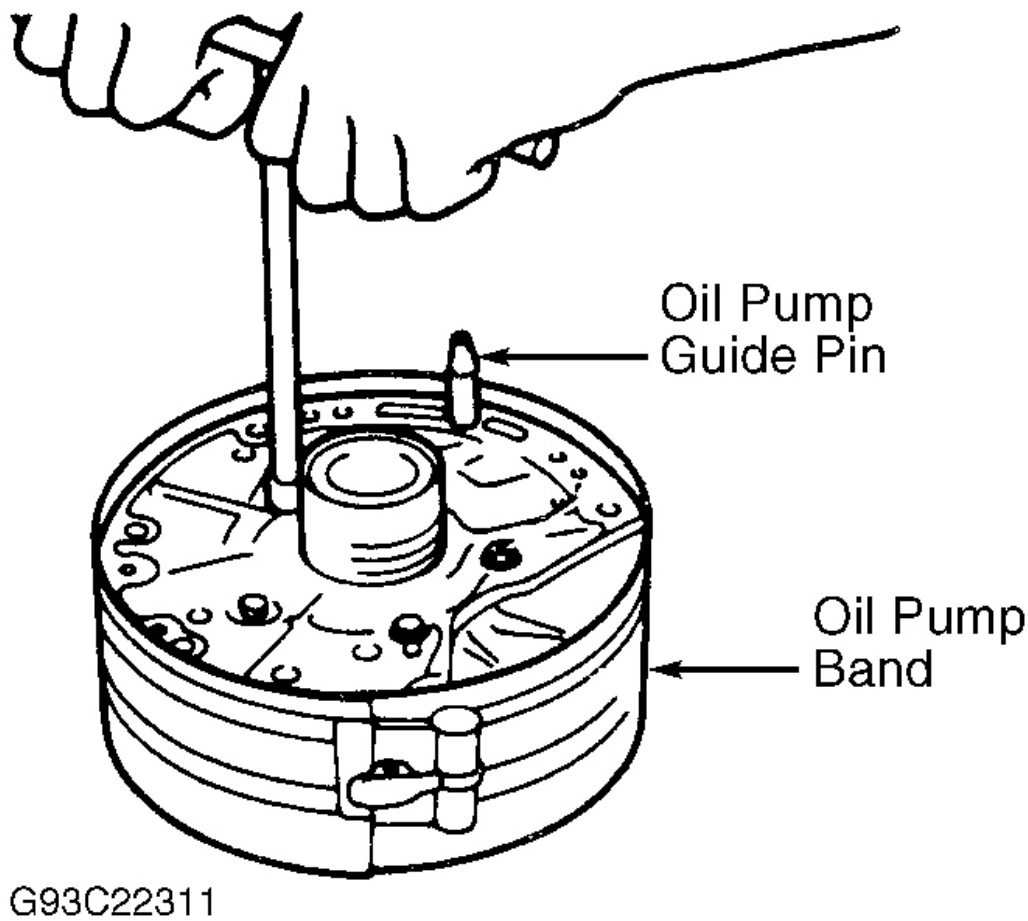

Fig. 22: Assembling Oil Pump
4. Install reaction shaft support on pump housing with oil pump housing-to-reaction shaft support bolts finger tight. Install Oil Pump Guide Pin (09452-21401) and Oil Pump Band (09452-21301) on assembled oil pump. See **Fig. 22** .